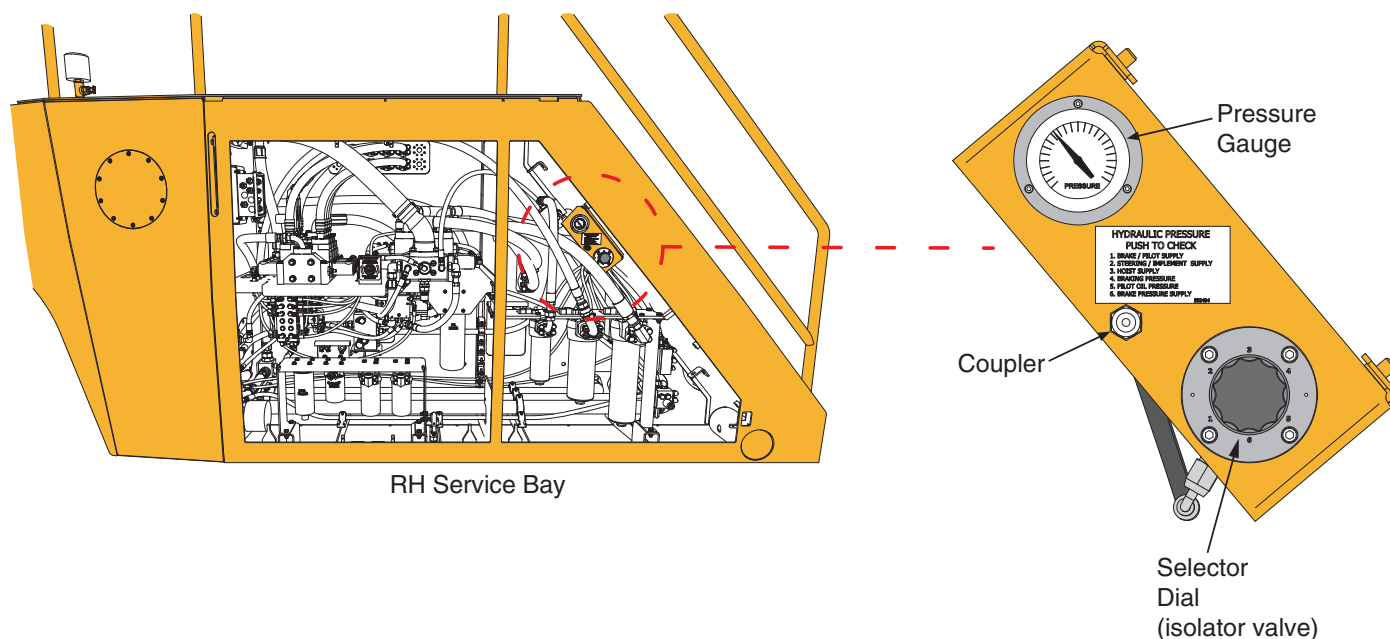

Figure 1 - Right Hand Service Bay Isolator Valve
System pressures can be checked by using the Isolator valve located in the right hand service bay (see Figure 1). Refer to hydraulic schematic and operating specifications for hydraulic pressures.
4. Twist dial to 1 of 6 positions for desired pressure. See decal located between selector dial and gauge (see Figure 1).
For more accurate results, connect a calibrated 5000 psi gauge to the coupler located between the selector dial and gauge (see Figure 1) and follow same procedure above.